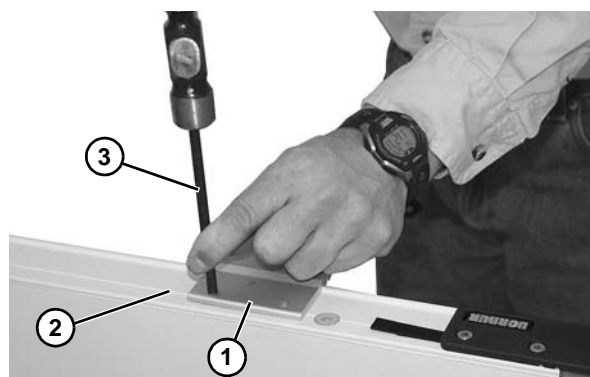

Figure 19
1. Locate and hold bracket (**Figure 19, item 1**) to side rail. Hole should line up with notch (**Figure 19, item 2**) in side rail. Mark the hole locations with a center punch (**Figure 19, item 3**) and remove the bracket.